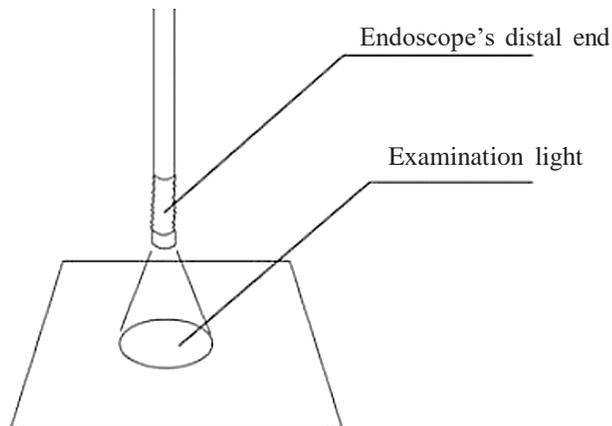

Fig 3.2
2. Confirm that Examination light is emitted from the distal end of the endoscope. (Fig 3.2)